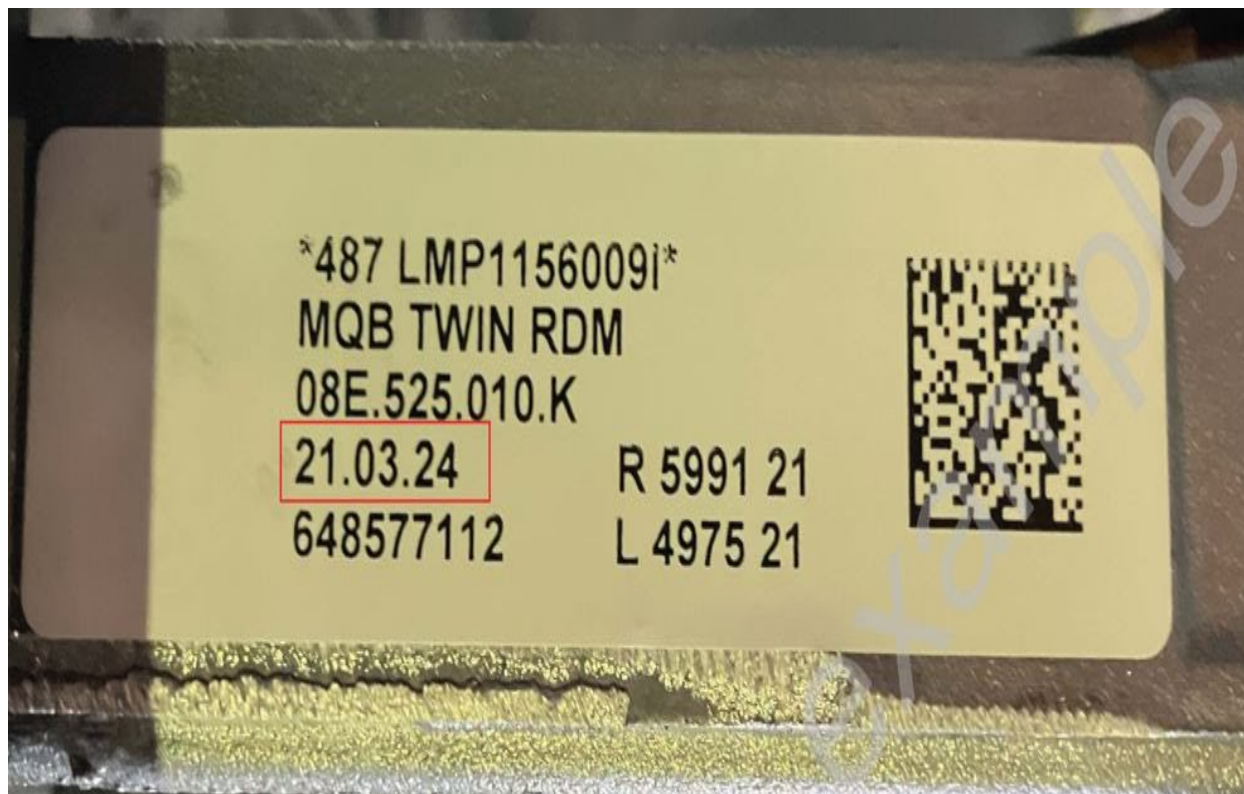

Figure 2. Example of DMC label on rear carrier: production date 03/21/2024.
- Check/read production date on DMC label (see figure 2, red box) and perform Step 2 if necessary.